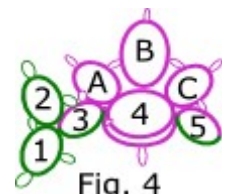

Fig. 4 Rw
*SR5: 6 / 3 + (R C last SCMR) 3 Cl SLT Rw (see fig. 4)